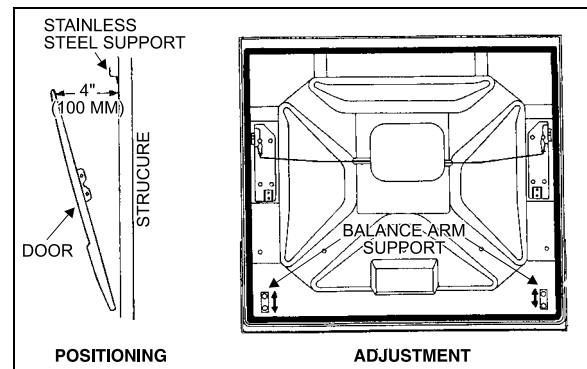

FIGURE 61: BAGGAGE COMPARTMENT DOOR 18065
2. Slightly open the door, position it to obtain a gap of 4" (100mm) between structure and door panel upper lip, maintain door in this position while an assistant completes tightening the two bolts retaining door to each balance arm support (Fig. 61).